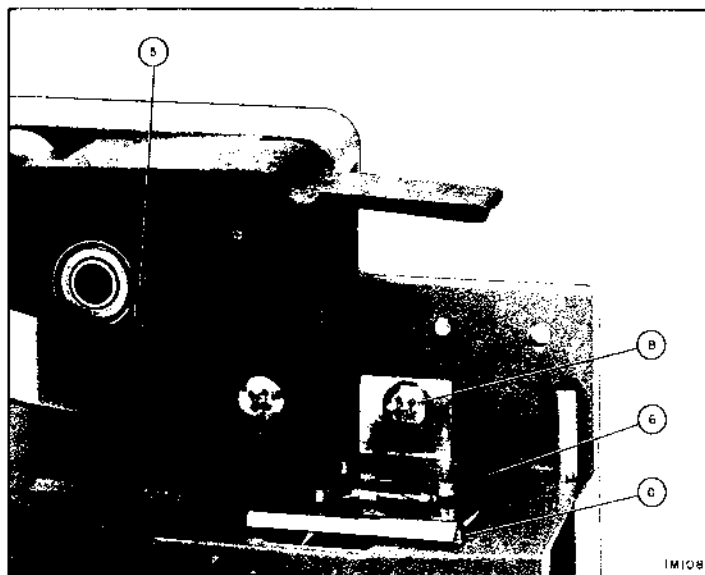

Figure 11
9. Remove screw (B) (figure 11).
12. When installing socket, make certain that shim (C) is in place under front lip of socket. Install screw (B) and press rear edge of socket down against casting while tightening. (Figure 11).